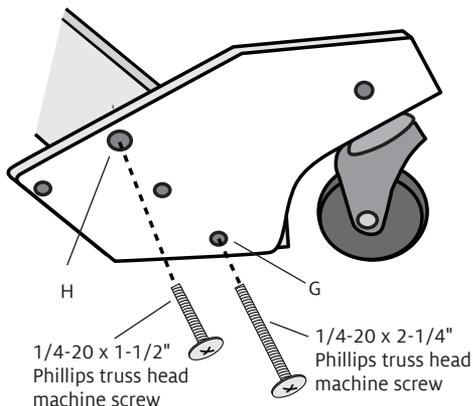

FIGURE 4: REAR CASTER BLOCK AND OUTSIDE LEG
6. Set a caster block on the outer side of an outside leg, with the caster wheel toward the back and the floor (Figure 4). Line up hole [G] at the bottom of the caster block to hole [B] in the outside leg. Insert a 1/4-20 x 2-1/4" Phillips truss head machine screw through the caster block and leg. The screw will thread into an insert in the height extender block that you cannot see; fasten securely. Repeat with another caster block and the other outside leg height extender block.
7. Attach the tops of the caster blocks: Insert a 1/4-20 x 1-1/2" Phillips truss head machine screw into the top hole [H] of a caster block (Figure 4). The screw will thread into an insert in the height extender block that you cannot see; fasten securely. Repeat for the other outside leg height extender block.